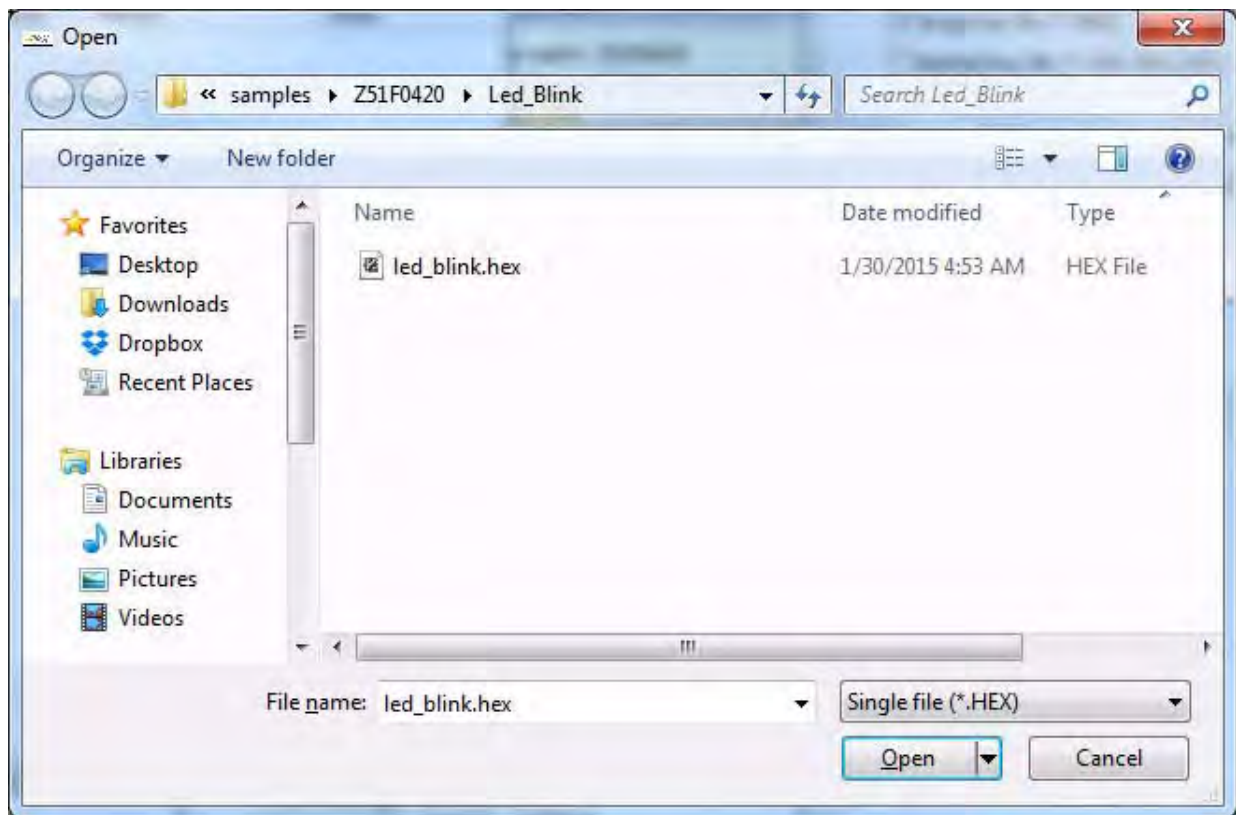

Figure 71. The Open Dialog
3. In the Hex File Download dialog, click the **Browse** button to display the Open dialog shown in Figure 71.